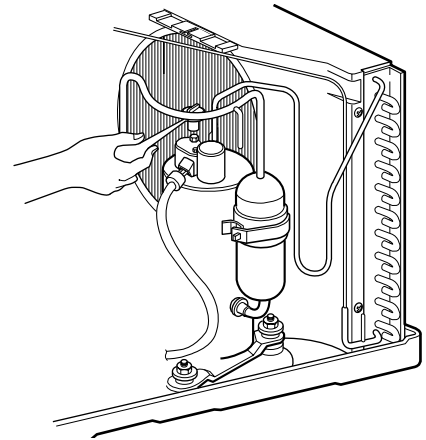

Figure 8
3. Remove the terminal cover. (See Figure 8)